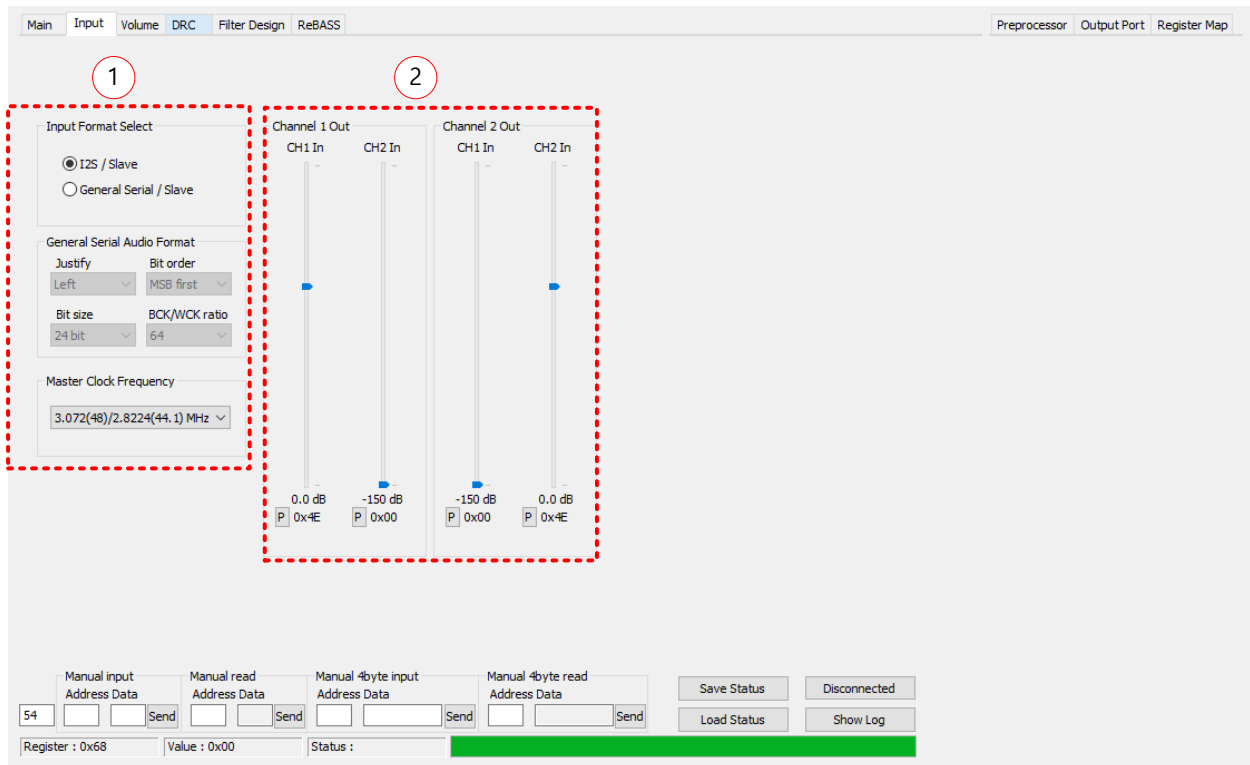

Figure 7. Input port setting
If you click 'Input' tab in the main window of the CP, the following input window appears as shown in Figure 7. The default values are shown as well.
② Mixer
Mixer has four gain values (M00~M11) [Figure 7-②], and its value can be changed while composing a matrix output of both channels. Please refer to Appendix A in the datasheet of WA20-6829B to set the gain value.